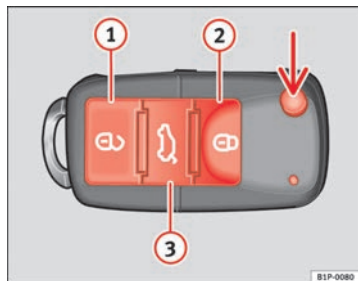

Fig. 64 Assignment of buttons on the remote control key
Using the button \Rightarrow fig. 64 (arrow) on the control, the key blade is released.
Unlocking the vehicle \Rightarrow fig. 64 ① .
Locking the vehicle \Rightarrow fig. 64 ② .
Unlocking the tailgate. Press button \Rightarrow fig. 64 ③ until all the turn signals on the vehicle flash briefly. When the unlocking button \Rightarrow fig. 64 ③ is pressed, you have 2 minutes to open the door. Once this time has passed, it will lock again.
Also, the battery indicator on the key \Rightarrow fig. 64, will flash.
When the button \Rightarrow fig. 64 ① , is pressed once, the driver door is unlocked, all others remain locked.
Press the button \Rightarrow fig. 64 ① twice to unlock all doors. ▶
- Press the  ⇒ page 107, fig. 64 button on the remote control.